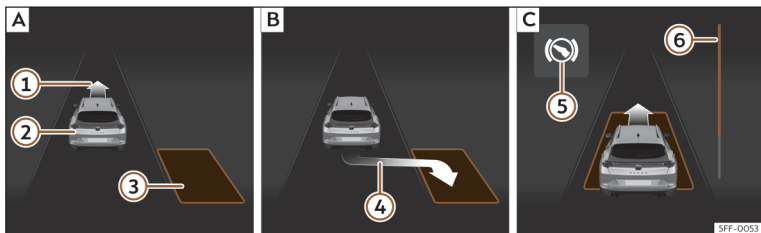
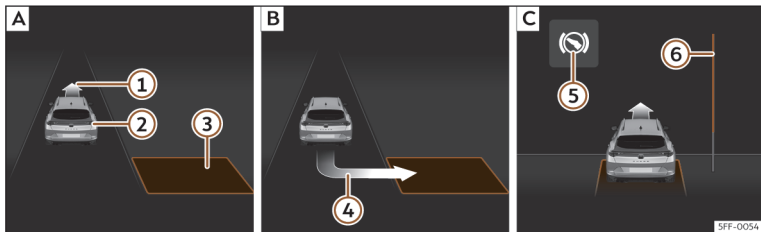

Fig. 159 On the instrument cluster display: parallel parking. **A**: Finding a parking space **B**: Parking position. **C**: Manoeuvring.
Fig. 160 On the instrument cluster display: angle parking. **A**: Finding a parking space **B**: Parking position. **C**: Manoeuvring.
- Look at the instrument cluster screen to see if the space has been detected as “appropriate” and if the correct position for parking has been reached >>> **Fig. 159 B** or >>> **Fig. 160 B**. The space is considered “appropriate” if the instrument cluster display shows the parking indication ④.
- Reverse until the continuous ParkPilot signal sounds; **OR:** reverse until the indication to move forward appears on the instrument panel display >>> Fig. 159 [C] or >>> Fig. 160 [C]; **OR:** reverse until the **Park Assist finished** message appears on the instrument cluster display. The progress bar [6] indicates the distance to cover.
- Move forward until the continuous ParkPilot signal sounds; **OR:** move forward until the reverse indication appears on the instrument panel display. The Park Assist system steers the vehicle forward and back until it centres it in the space >>> Fig. 159 [C] or >>> Fig. 160 [C].
The progress bar >>> Fig. 159 [6] and >>> Fig. 160 [6] on the instrument cluster display shows the relative distance to be covered as a symbol. The greater the distance, the fuller the progress bar. When driving forward, the content of the progress bar decreases upwards, and when reversing, it decreases downwards.